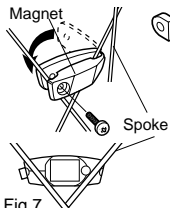

Fig.7
- Attach the magnet on the right spokes of the front wheel. The spokes must run correctly through the inside of the magnet as in Fig. 7.